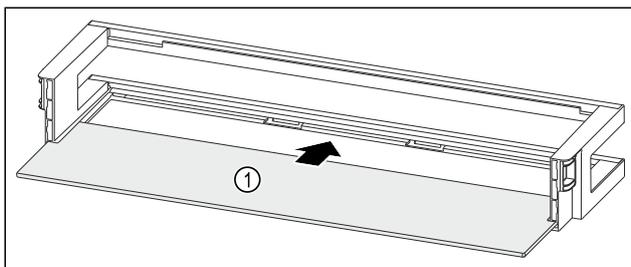

Fig. 92 Door rack with shelf
- ▶ Push the shelf Fig. 92 (1) into the side recesses.